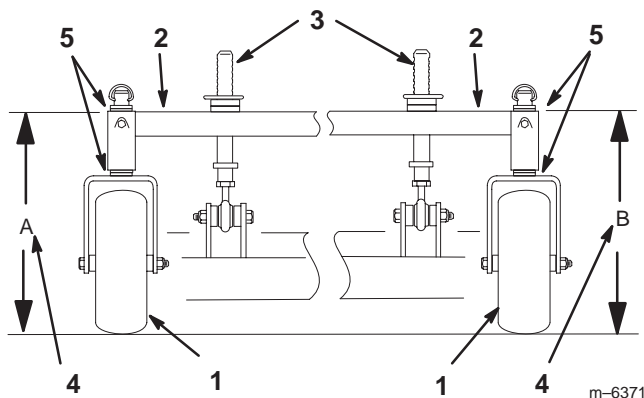

Figure 55
4. Measure carrier frame height at location **A** (Fig. 55).
5. Measure carrier frame height at location **B** (Fig. 55).